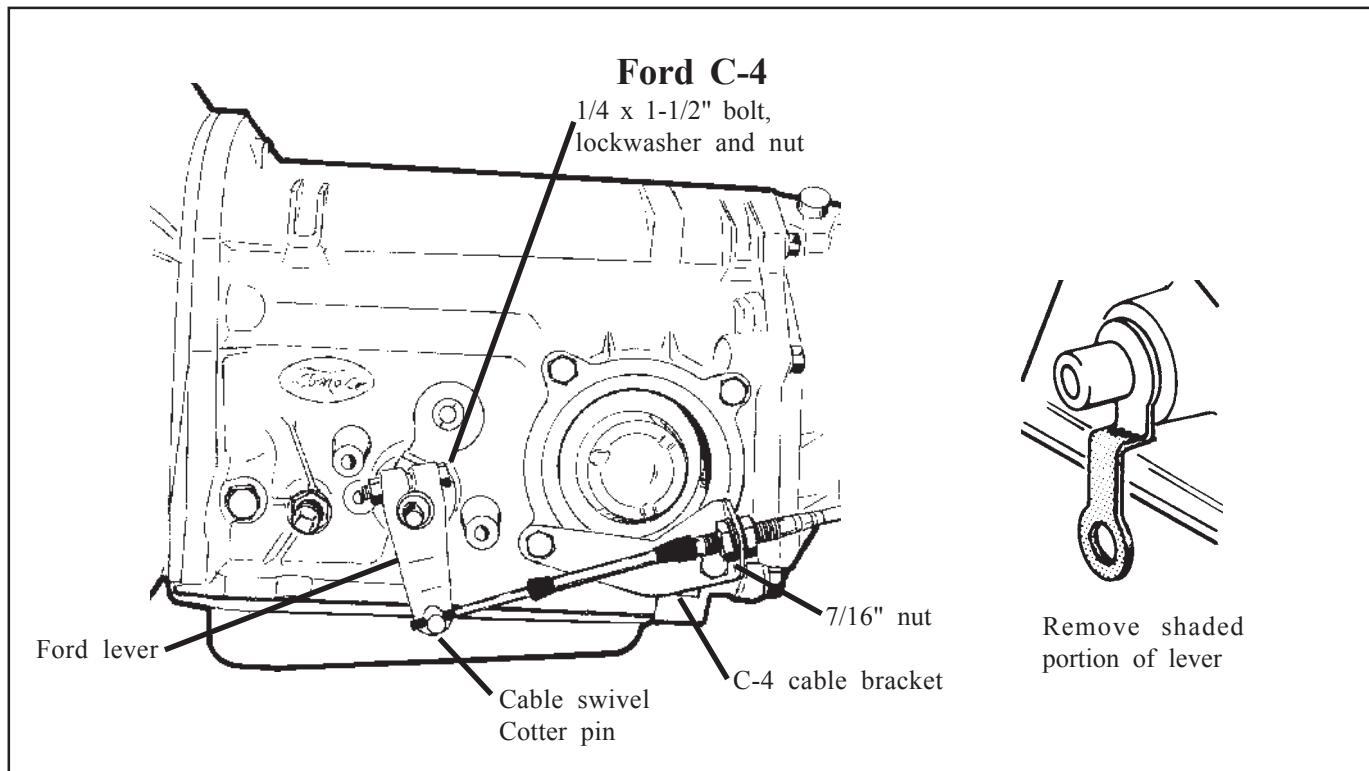

Figure 1
STEP 2. Install the **B&M** selector lever, See **figure 1**. Note: The B&M lever must point downward for proper operation. If the stock shift lever on your transmission points down, you will have to remove the lower part of the stock
arm by cutting it off to clear the **B&M** lever, (See **figure 1**). Install **B&M** selector lever onto shift shaft of transmission. Align selector lever so when it points straight down it travels equal arcs in both directions from center, then tighten $1/4\text{-}20 \times 1\frac{1}{2}\text{"}$ pinch bolt and nut. The lever should travel smoothly from front to back with a positive click in each gear position. Make sure O-ring is in position on downshift shaft and install downshift
STEP 3. Remove the two lower bolts from the rear servo cover. Install cable bracket in position, (See **figure 1**). Install two servo cover bolts as removed and tighten 12-13 ft. lbs. Do not overtighten as this can distort servo cover.